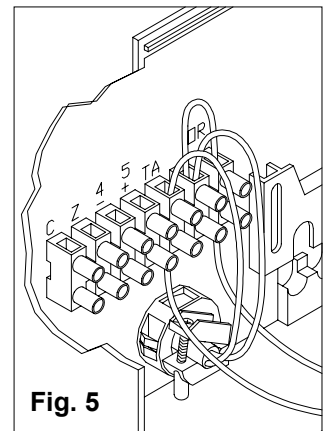

Fig. 5
- Insert the thermostat wires (fig.5) one in terminal TA and the other in the one next to it occupied by bridge PT which you have just moved.